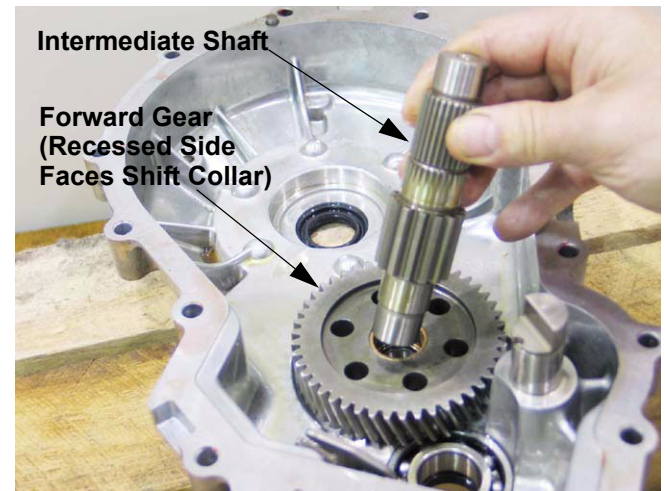

Figure 12.8
- 12.8. Remove the intermediate shaft. See Figure 12.8.